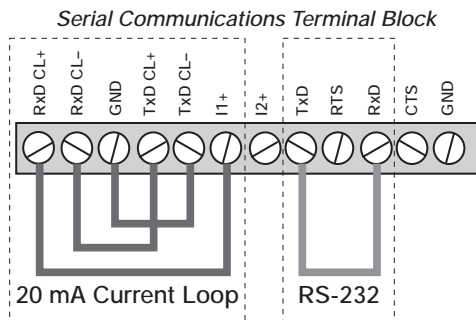

Figure 5-3. Terminal Block Connections for Loop-Back Self-Test
4. Connect jumpers to the terminal block as shown in Figure 5-3. Wire the terminal block only for the type of communications you are using (RS-232 or 20 mA), not both.